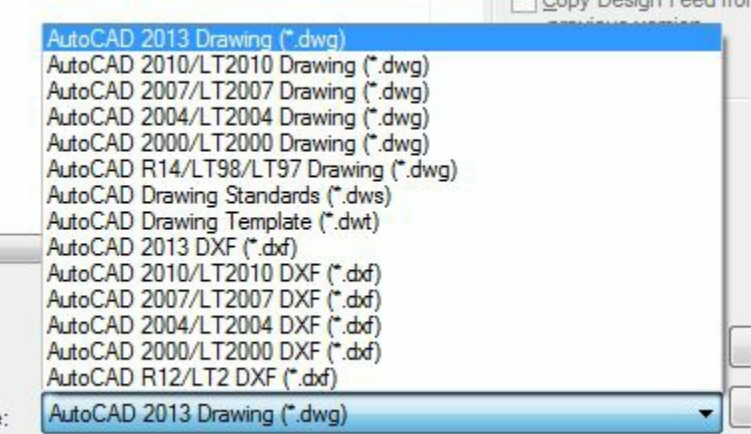

Figure-30. AutoCAD Electrical file formats
- Change the file name as desired and click in the Files of type drop-down to change the file format. On clicking at the **Files of type** drop-down, the list of formats is displayed as shown in Figure-30.